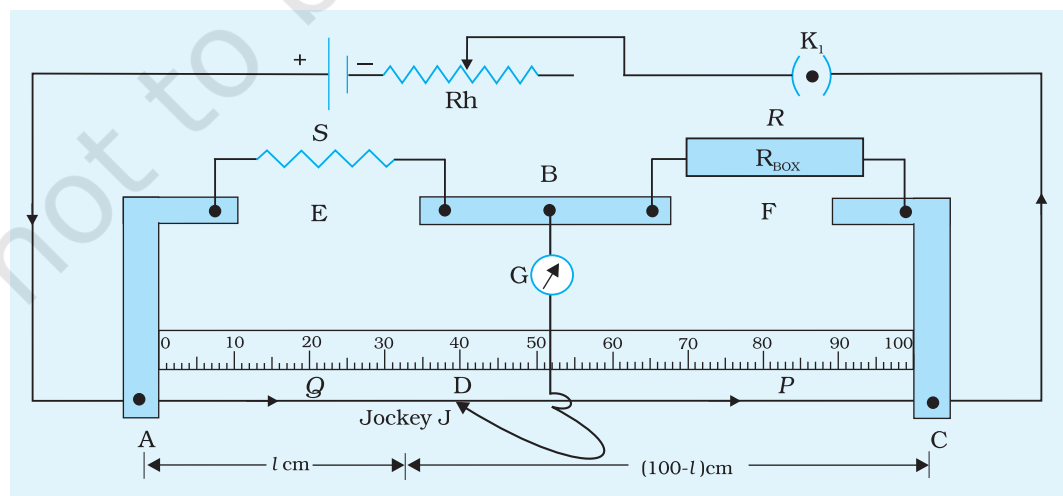

Fig. E 2.1 A metre bridge
It consists of one metre long constantan wire AC of uniform cross-sectional area mounted on a wooden board with a scale (Fig. E 2.1). The two ends of the wire are attached to terminals A and C. Thick metal strips bent at right angles are used to provide two gaps E and F to connect resistors forming a Wheatstone's
The unknown resistance S is connected in the gap E and a resistance box (R_{Box}) in gap F of the metre bridge. The terminal B is connected to one terminal of the galvanometer G . The other terminal of the galvanometer is connected to a jockey J which slides along the wire AC . A source of dc current is connected between A and C through a key K_1 so as to provide a constant potential drop along AC (Fig. E 2.1).
3. Set up the circuit as shown in Fig. E 2.1 with unknown resistance wire of known length in gap E.